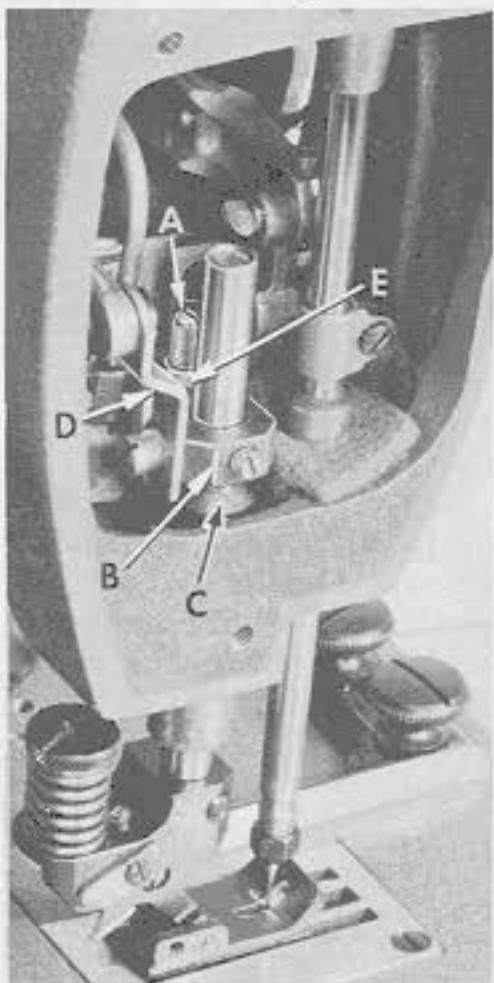

Fig. 14
Remove the presser spring regulator and the presser spring. Adjust the long stop screw (A, Fig. 14) in presser bar guide (B) against the bed casting as required to ensure a clearance between the guide and the top of presser bar bushing (C), yet so that guide is pulled up quickly by the lifter lever link (D) when foot treadle is activated. Tighten lock nut (E) on stop screw.